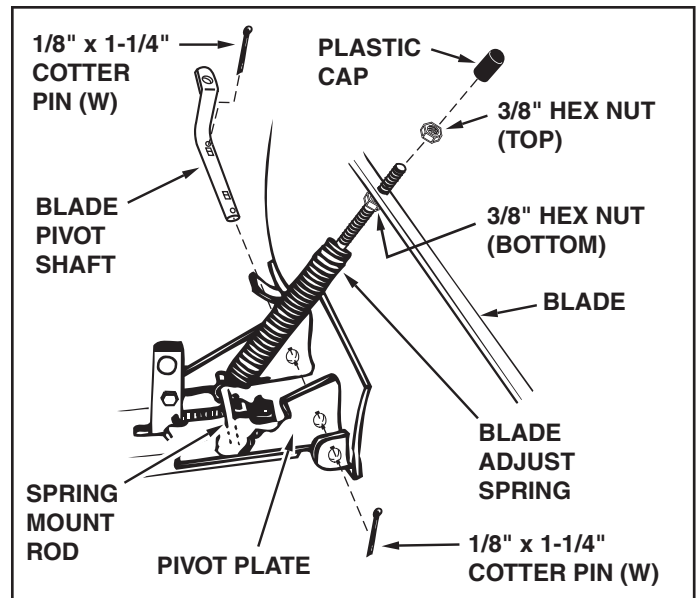

FIGURE 19 (Right Hand Side View)
STEP 19: (SEE FIGURE 19)
- To attach the blade to the channel assembly, align the notched holes in the pivot plate with the notched holes in the blade. Insert a 1/8" x 1-1/4" cotter pin (W) down through the hole at the bend in the blade pivot shaft. Spread the ends of the pin. From the left side insert the blade pivot shaft, bend facing up, through the notched holes. Secure the shaft with another 1/8" x 1-1/4" cotter pin (W) through the end hole in the shaft. Spread the ends of the pin.
- The tension of the blade adjust spring may be altered to permit the blade to tilt forward to bypass solid obstructions. To change the spring tension, adjust the nuts at upper end of the spring bolt. Turn the nuts counterclockwise to relieve tension and clockwise to increase tension. Refer to figure 19 on page 12.